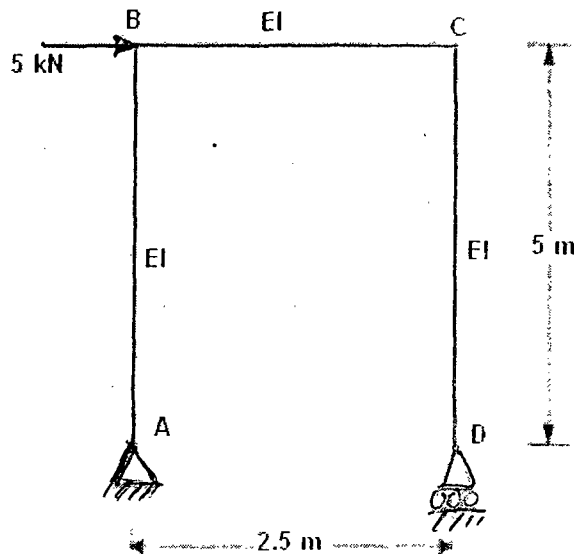

Fig. 11
11. Find the horizontal displacement at joint B of the frame ABCD as shown in Fig. 11 by unit load method. Assume EI to be constant for all members.